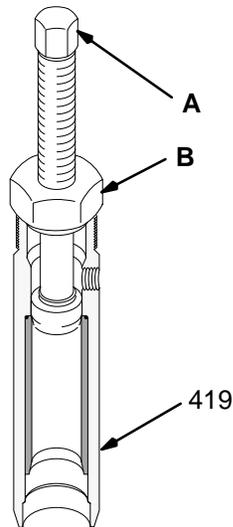

Fig. 39 0028
7. Remove the sleeve. Screw the large nut (B) of the tool into the top of the cylinder (419). Screw down the rod (A) to push the sleeve out. Remove the tool. See Fig. 39.